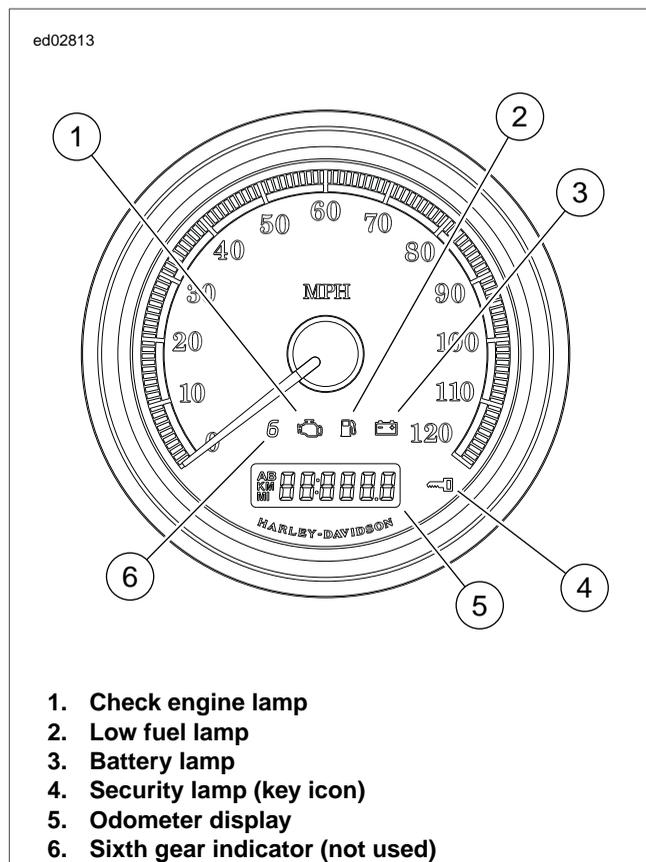

Figure 2-1. Speedometer
See Figure 2-1. To diagnose Electronic Control Module (ECM) system problems, begin by observing the behavior of the check engine lamp (1).
See Figure 2-1. To diagnose Turn Signal Security Module (TSSM) or Hands-Free Security Module (HFSM) system problems, begin by observing the behavior of the security lamp (4).
- See Figure 2-4. Constant power is supplied to the speedometer through terminal "5" of connector [39]. The speedometer turns on when power is applied to terminal "1". The speedometer proceeds through an initialization sequence every time power is removed and re-applied to terminal "6". See Figure 2-1. The visible part of this sequence is the check engine lamp (1), security lamp (4),